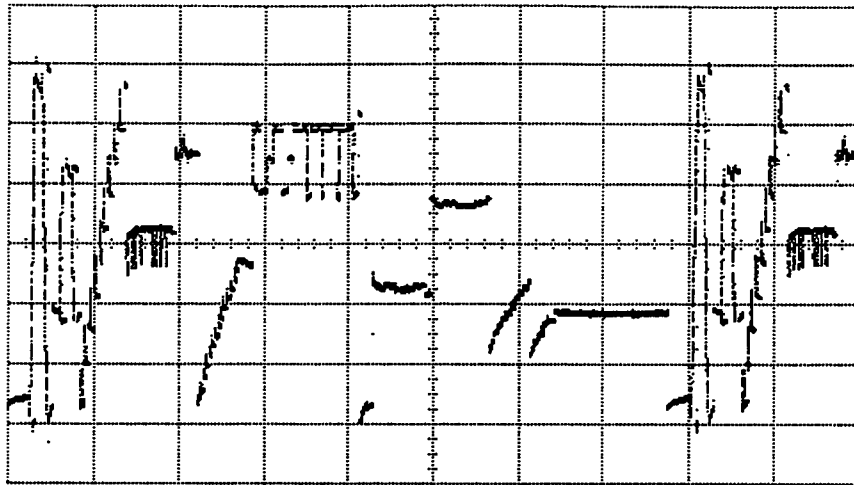

Figure 5-29. X-Amplifier Auxiliary Output
- c. Connect oscilloscope to A81 J5 pin 2 and check for a display as shown in figure 5-29.